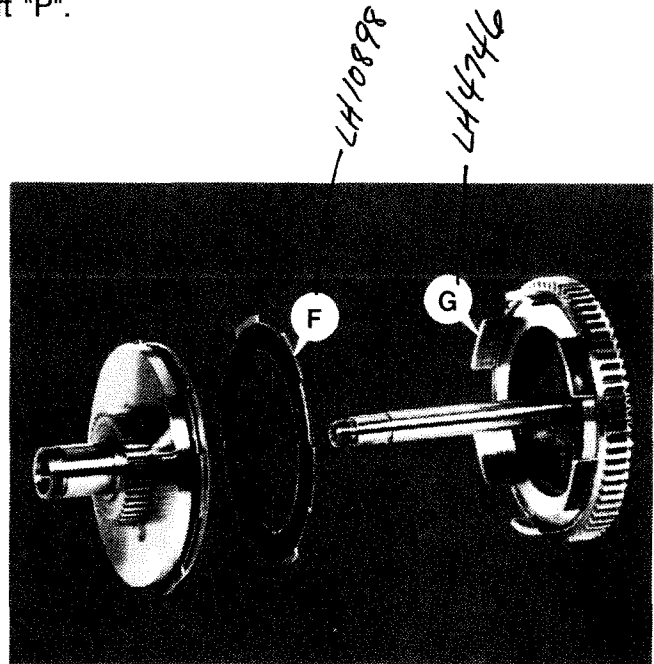

Figure 1.13 - Cross Feed Clutch Components
- b) Remove 70 tooth gear "G" and clutch plate "F", Figure 1.13 .